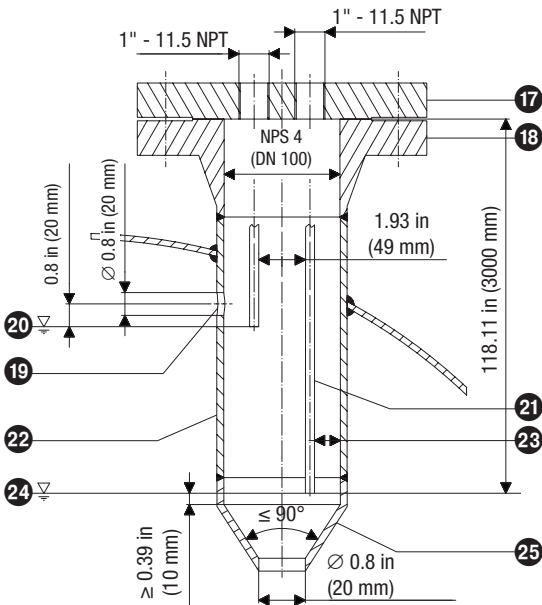

Fig. 13 Protective tube (provided on site) if electrode is used as an internal water level limiter combined with level control or low water alarm
- One NRG 1...-50 level electrode can be installed in a single protective tube or level pot [inside diameter 3.94 in (100 mm)] together with a GESTRA level electrode and a level switch or transmitter for water level control or low water alarm. **Fig. 13**. If the NRG 1...-50 is installed inside the vessel, it must be at least 1.57 in (40 mm) away from the upper pressure relief hole.